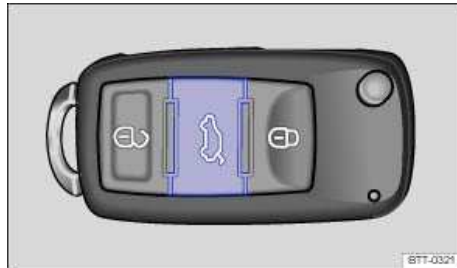

Fig. 28 In the remote control vehicle key: Button to unlock and open the rear hatch.
- Briefly press the  button on the remote control vehicle key ⇒ fig. 28 to *unlock* the rear hatch.